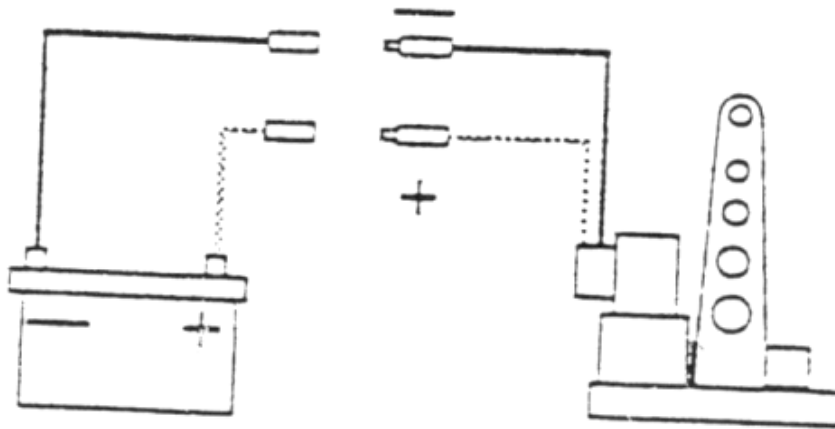

Figure 3-1.
4. After connecting the jumper cables, thread them through the grill of your vehicle and plug together the quick disconnect ends of the jumper cables and the 25-foot power cable. See Figure 3-1.